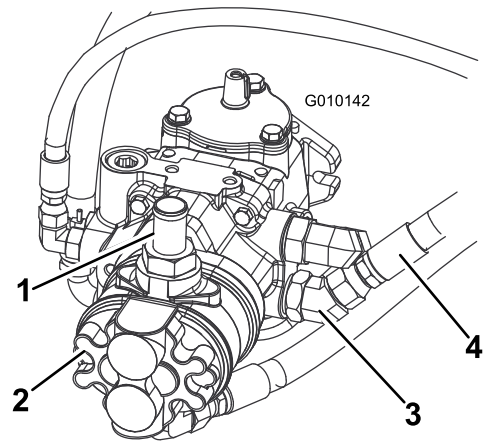
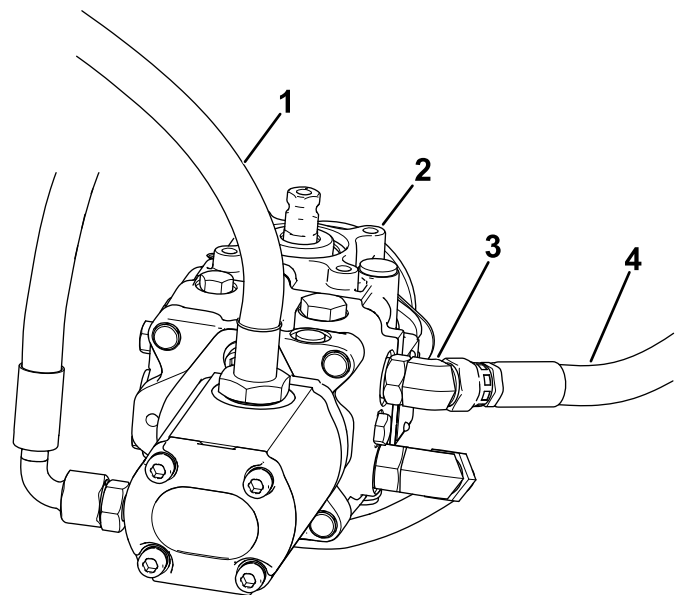
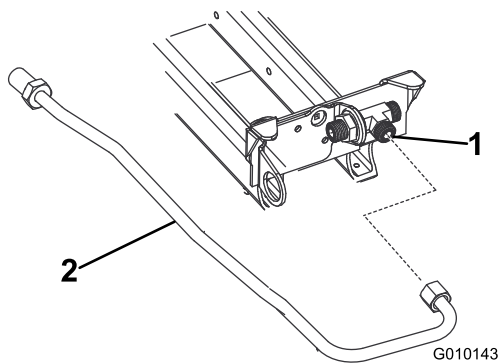

Figure 4
Figure 5
Figure 6
2. Drain all hydraulic fluid from reservoir by removing the upper hose from the gear pump (Figure 4). Connect hose after installing hydraulic hard line.
Remove and discard the hose secured to 45° fitting on the lower pump port (Figure 4) and to the tee fitting under the seat base (Figure 6).
Remove and discard the hose secured to 45° fitting on the upper pump port (Figure 5) and to the tee fitting under the seat base (Figure 6).
7. Install the hydraulic hard line to the tee fitting under the seat base. Position the line as shown in Figure 6.